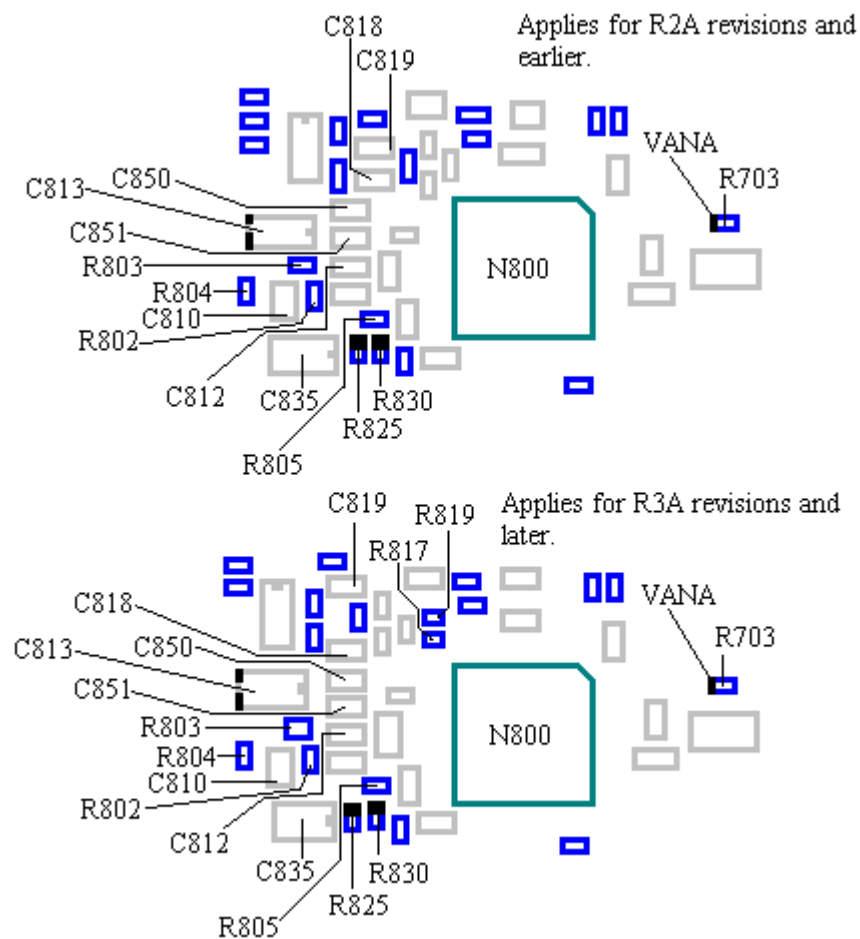
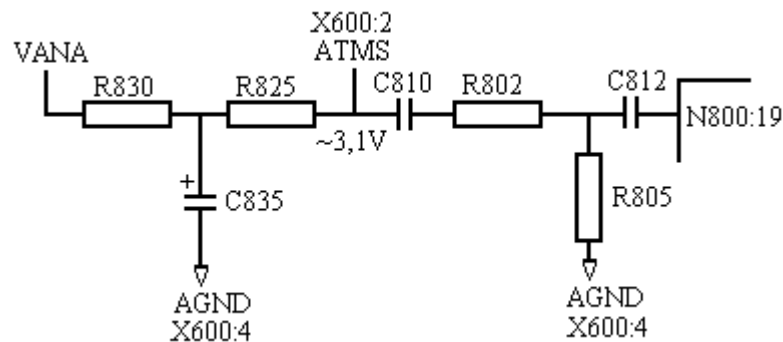
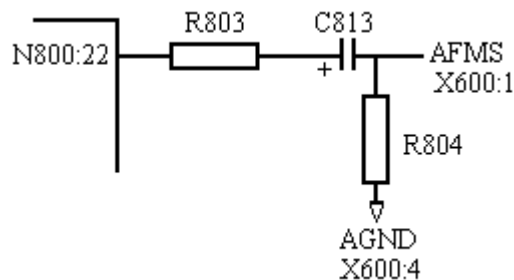

Fig. 4.3
Fig. 4.6
Fig. 4.7
Check the solderings of N800 (fig. 4.3).
If the fault remains, measure the resistances of C850 (>100 kohms), C851 (>1 kohms), R817 (~1 kohms) and R819 (~1kohms, all of class A and in fig. 4.3). Note! The resistors are mounted at boards from revision R3A and above.
Replace C818 and C819 (fig. 4.3).
- * If the voltages are correct, check the solderings of N800, D600 and D900 (fig. 4.3 and 4.2).
The fault is caused by an interruption somewhere in the audio path from the hands-free microphone (connected at the system connector) to the input at N800. The audio path is shown in fig. 4.6.
Measure the resistances of C850 (>100 kohms) and C851 (>1 kohms, both in fig. 4.3).
Make sure all the components shown in fig. 4.6 (R830, R825, R802, R805, C835, C810 and C812) are mounted at the circuit board (fig. 4.3).
Measure the voltage at the marked side of R825 (~3.1V, fig. 4.3).
* If VANA is correct, check the resistances of R830 (470 ohms), R825 (3.3 kohms) and C835 (>1 kohms, all of class A and in fig. 4.3).
- If the voltage at R825 is correct, check the resistances of C810 (>10 kohms), C812 (>100 kohms), R802 (~3.9 kohms) and R805 (~15 kohms, all four of class A and in fig. 4.3).
The fault is caused by an interruption somewhere in the audio path from the output of N800 to the handsfree speaker (connected at the system connector). The audio path is shown in fig. 4.7.
Make sure all the components shown in fig. 4.7 (R803, R804 and C813) are mounted at the circuit board (fig. 4.3).
Measure the resistances of R803 (~100 ohms), R804 (~100 kohms) and C813 (>100 kohms, all of class A and in fig. 4.3).
If all the resistances are correct, check the solderings of N800 and D600 (fig. 4.3 and 4.2).